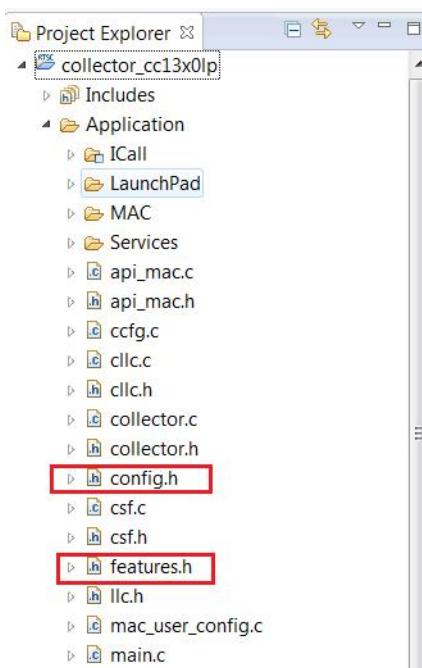

Figure 4. Locate config.h File
2. Find the config.h file, see Figure 4 on how to locate this file.